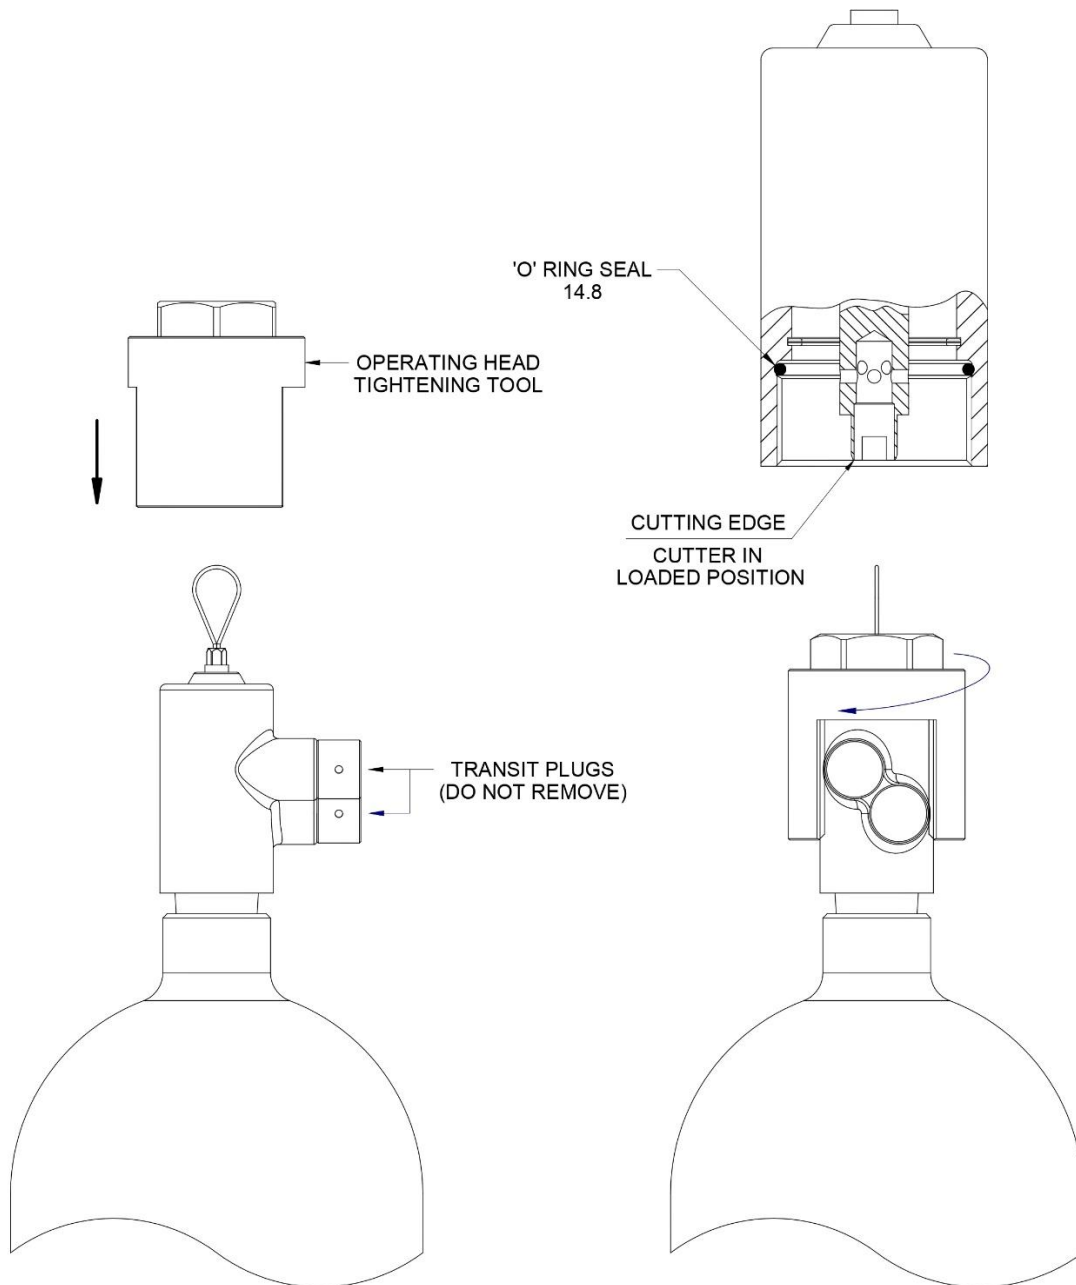

FIG 7
Fig. 7 refers.
1. Check that the Operating Head is loaded. The tip of the Cutter should be sub-flush with the end of the Operating Head. If the Cutter projects from the end of the Operating Head, reload as described in Sections 11 & 12. (Figs. 7 and 12 refer).
2. Check that the 'O' Ring Seal is fitted in the Operating Head. (Item 14.8, Ref. Fig.7).